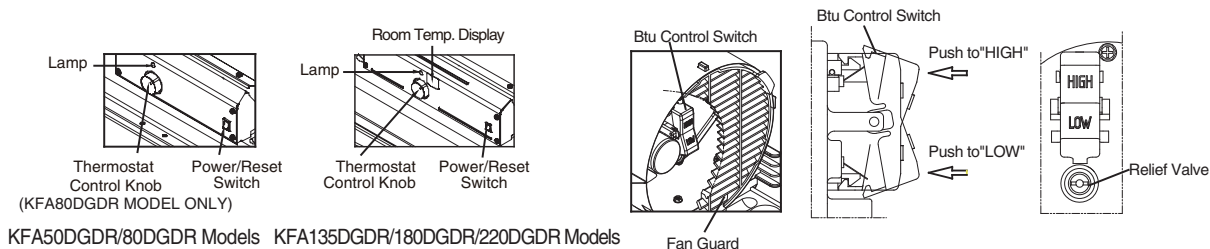

**Figure 8. Controls for All Models**
- 4) Position the Handles on top of fuel tank flange. Insert screws through handles, fuel tank flange and wheel support frames as shown in Figure 8 and attach nut finger tight after each screw is inserted.
5. Push “BTU control Switch” to desired level “High or LOW” (See Figure 8.) (KFA135/180/220DGDR Models Only)